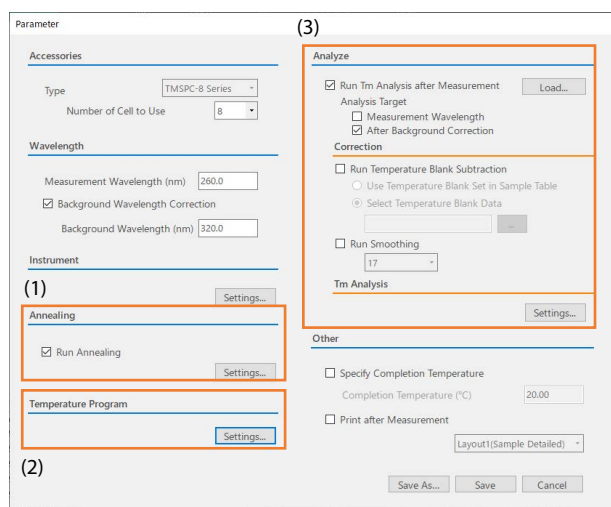
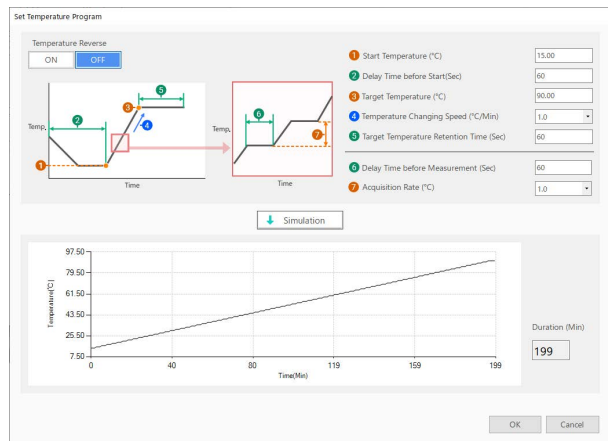

Fig. 4 Parameter Setting Window
Fig. 5 Temperature Program Setting Window
Fig. 4 shows the parameter setting window. To perform annealing, set the temperature from panel (1). Click the "Settings" button for the temperature program in panel (2) and enter parameters such as start and target temperatures and waiting time on the temperature program window (Fig. 5). This window allows the operator to simulate the temperature program and check how much time is required. To automatically analyze Tm values after measurement, the analysis method can be set in panel (3). The analysis methods available are the average method, which determines the Tm value from the intersection of the midline of the tangent to the melting curve, and the derivative method, which determines the Tm value from the maximum value of the first derivative. All the conditions set here can be saved as a template, eliminating the need to set up the conditions again the next time.